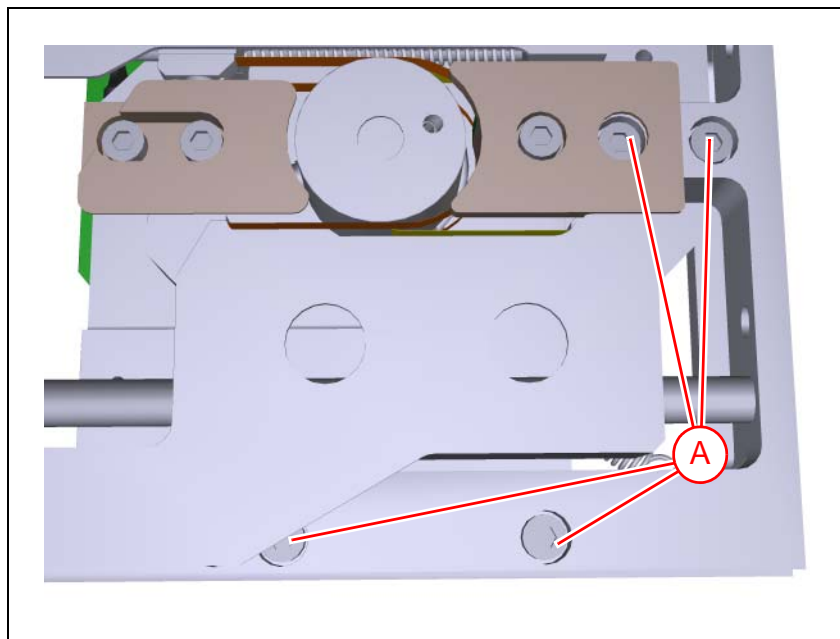

Figure 8-4. Loosen locking screws, right centering unit (Bottom view).
- On the right centering unit, use an **Allen** key to loosen four locking screws ('A' in Figure 8-4). Make sure the motor plate moves freely.
6. Tighten the locking screws (see Figure 8-4 and/or 8-5) on the motor plate while holding the centering jaws firmly.